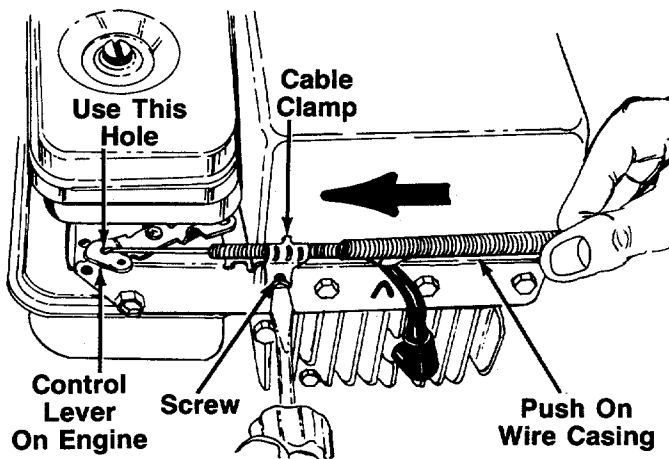

FIGURE 5.—Briggs and Stratton Engine
2. The throttle control cable is attached to the upper handle. Route the throttle control cable under the lower handle and inside the handle mounting bracket. Hook the "Z" end of the throttle control cable into the arm on the control lever on the engine which has two holes, using the outside hole as shown in figure 5.
3. Using a 5/16" wrench or nutdriver, remove the screw on the cable clamp shown in figure 5. Slip the control casing under the clamp. Replace the screw, but do not tighten (cable must still move freely beneath the clamp).
4. Place the throttle control lever on the engine in the full open position by pushing it toward outside of the unit. Push the wire casing on the throttle control cable toward the control lever on the engine as shown in figure 5 as you tighten the screw on the cable clamp.
The throttle control wire assembly can be adjusted if necessary. Loosen the screw on the cable clamp shown in figure 5 or 6. Adjust as instructed in step 4 of "Attaching the Throttle Control Cable" in Assembly Instructions.